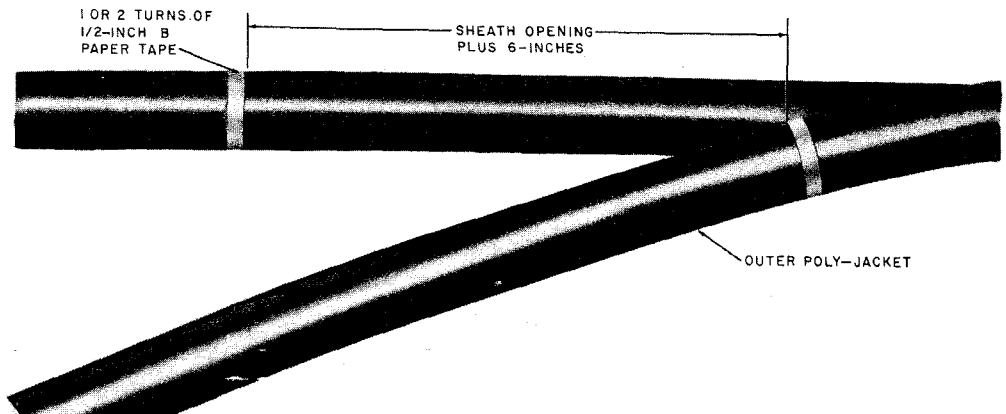

Fig. 1—Marking Cable Ends
2.03 Refer to practices covering wire joining and lead sleeves to determine the amount of cable ends required to make the splice and the length of the sheath opening. Mark the sheath opening with 1/2-inch B Paper Tape as shown in Fig. 1.